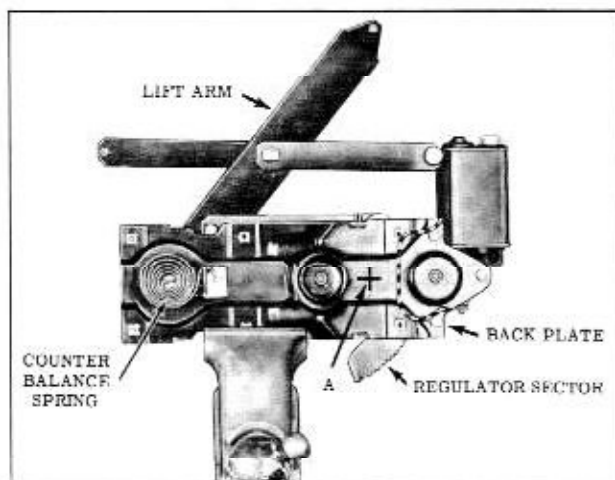

Fig. 17-49 Rear Door Window Regulator Assembly
- Remove electric window regulator assembly from door and/or rear quarter and clamp securely in vise. (Fig. 17-49)
- Drill a 1/4" hole THROUGH SECTOR AND BACK PLATE within area indicated by "A". (Fig. 17-49)
- Remove motor attaching bolts and remove motor assembly from regulator. (Fig. 17-49)